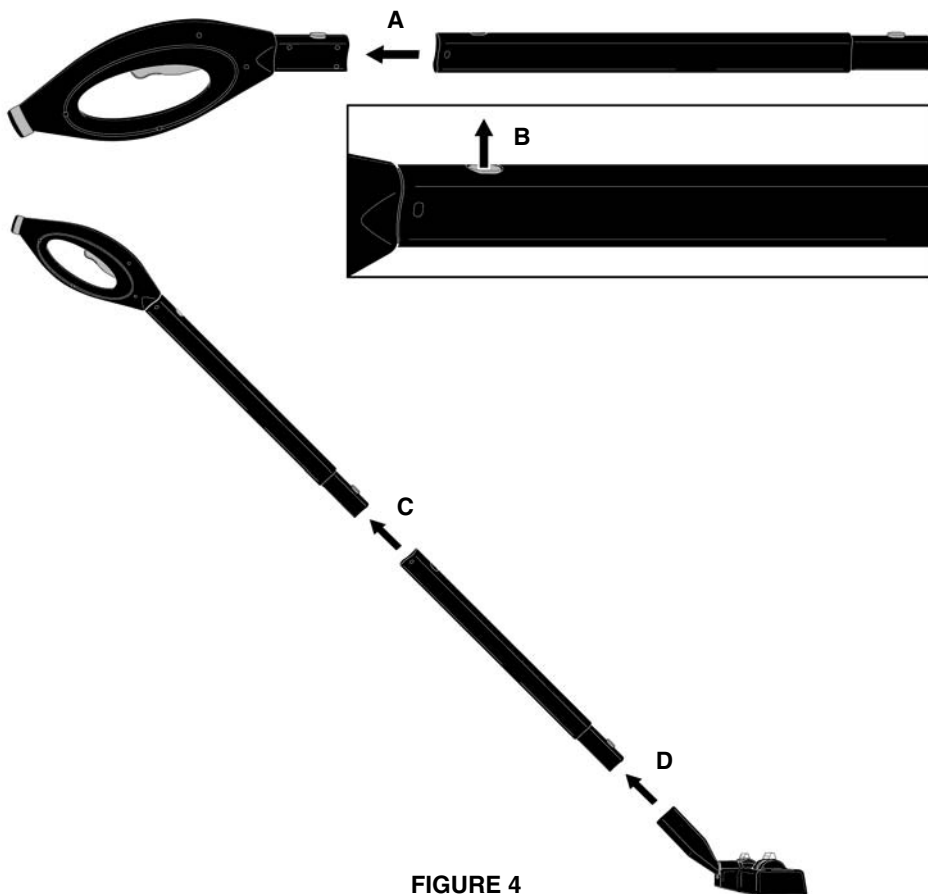

FIGURE 4
1. Select one of the Extension Wands, and align rear end of Wand with Main Nozzle as shown (FIGURE 4-A).
2. Press down on the yellow locking button located on Main Nozzle. While continuing to hold button down, slide Extension Wand onto Nozzle. Push Wand over button, and continue to push it on until button snaps through hole on Wand (FIGURE 4-B).
3. Now slide second Extension Wand onto end of the one you just connected as shown (FIGURE 4-C). Push on firmly until yellow locking button on first Wand snaps through hole on second Wand.
4. Slide Steam Jet Nozzle (with connected Utility Head) onto end of second Extension Wand as shown (FIGURE 4-D). Push on firmly until yellow locking button on second Wand snaps through hole on Steam Jet Nozzle.